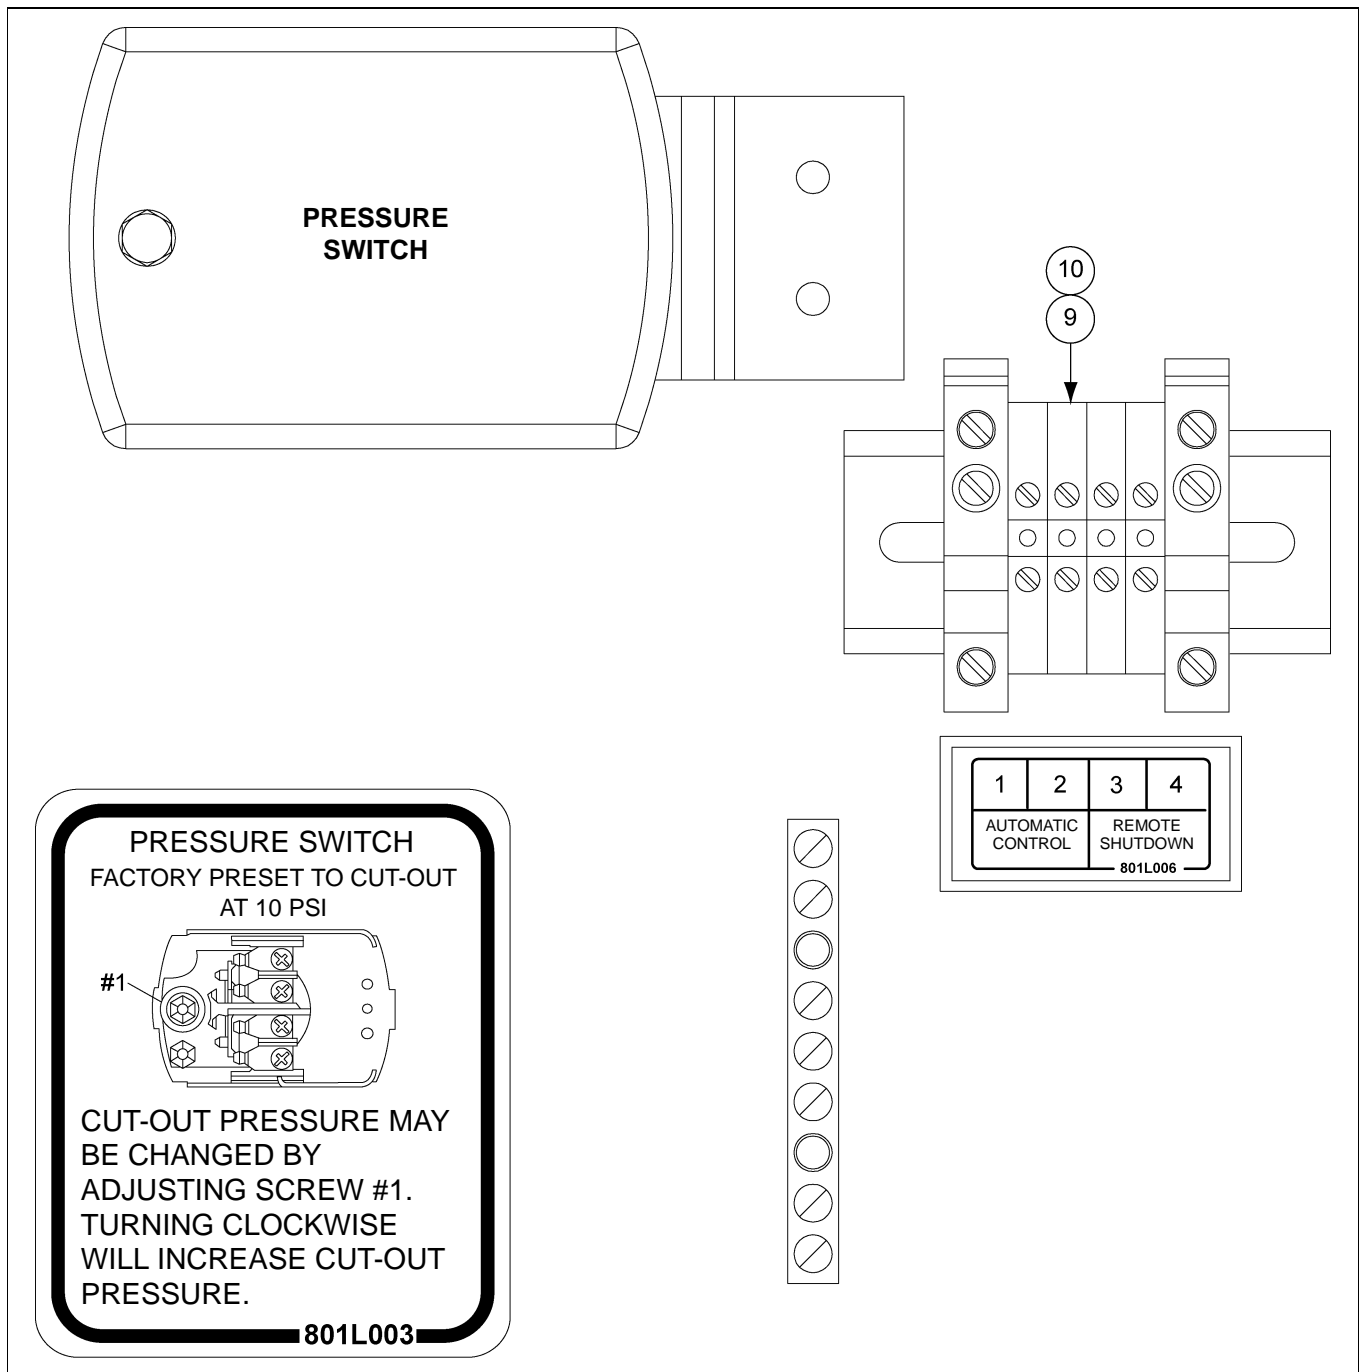

Figure 7P Auto Remote
7. **Tripped Overload Indicator Light:** This lamp will illuminate when any of the motor thermal overloads in the control box has tripped. The overloads for all three (3) circuits (aux, airlock and blower) must have thermal overloads installed to operate the system. See thermal unit chart on Page 28.
9. **Automatic Control Terminals:** When the air system is ready to run (i.e., the control ready light is ON), the system can then be started and run by completing the circuit between terminals 1 and 2. The blower, airlock or auxiliary equipment will not run in the automatic mode unless terminals 1 and 2 are connected. For example, a closing set of contacts in a dryer control box would complete the circuit between terminals 1 and 2 and automatically start the air system. (See Figure 7P on Page 27.)